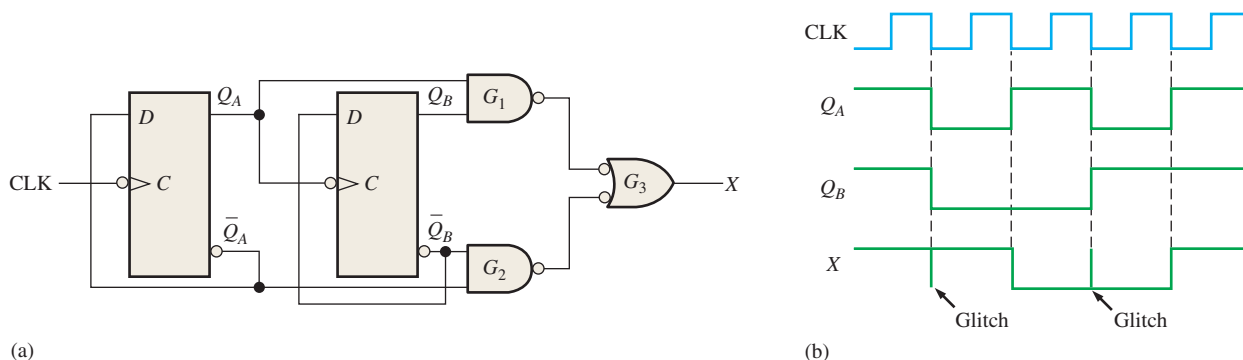

FIGURE 7-95
36. The flip-flop circuit in Figure 7-95(a) is used to generate a binary count sequence. The gates form a decoder that is supposed to produce a HIGH when a binary zero or a binary three state occurs (00 or 11). When you check the Q_A and Q_B outputs, you get the display shown in part (b), which reveals glitches on the decoder output (X) in addition to the correct pulses. What is causing these glitches, and how can you eliminate them?
37. Determine the Q_A , Q_B and X outputs over six clock pulses in Figure 7-95(a) for each of the following faults in the bipolar (TTL) circuits. Start with both Q_A and Q_B LOW.